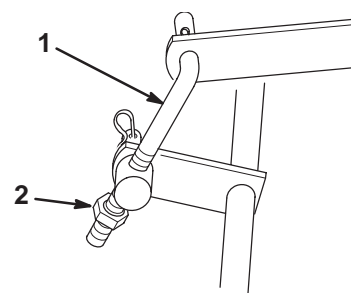

Figure 16
1. To adjust the front-to-rear blade slope turn the locknut on rear adjustable link (Fig. 16).